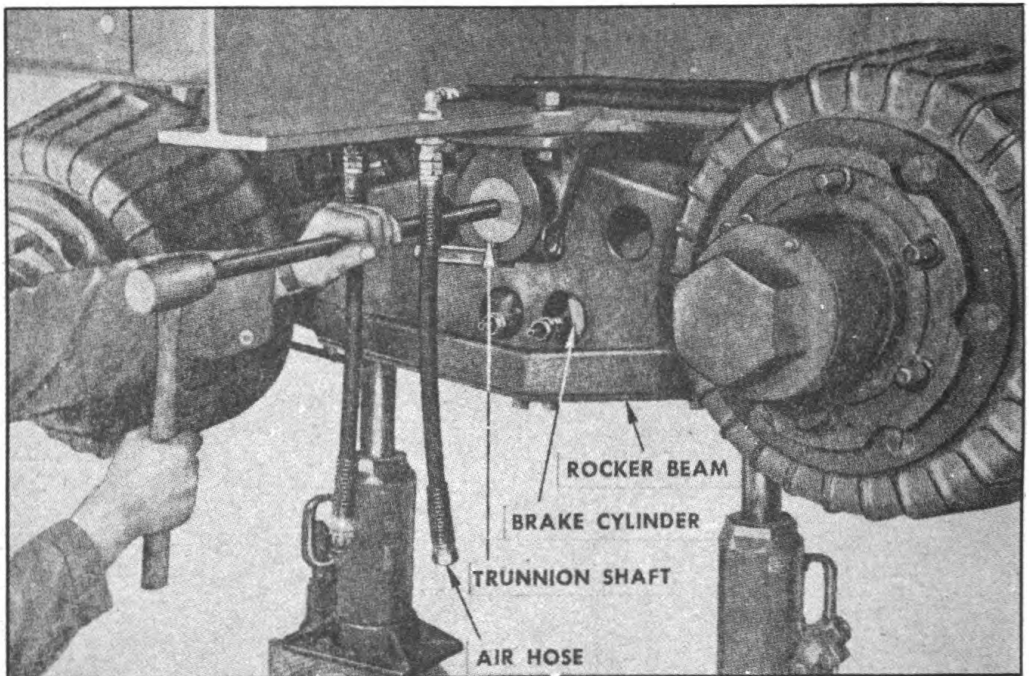

FIGURE 17. TRUNNION SHAFT REMOVAL
c. *Trunnion shaft removal* (Figure 17).—(1) Place a hydraulic jack under rear crossmember at each corner. Jack trailer up just high enough to relieve the weight of underconstruction against mounting brackets.
(2) Place two jacks under rear crossmember and jack trailer up.
(3) Place a greased plank on steel plate under the outer wheel and hub assembly.
(4) Remove the four inner wheels.
(5) Remove the two inner hub assemblies.
(6) Remove the two outer wheel and hub assemblies in one unit.
(7) Disconnect the front and rear parking brake rods at brake lever.
(8) Remove the two clevis pins from the two equalizers.
(9) Remove front and rear trunnion axle with brake assembly attached.
(10) Disconnect the two air lines which run to brake cylinders mounted on inside of rocker beam.
(11) Place a jack under rocker beam at front and rear.
(12) Remove the pinch bolt from mounting bracket (Figure 17).
(13) Remove alemites from trunnion shaft.
(14) Drive shaft out using a heavy bar and sledge hammer (Figure 17).
(15) Lower the two jacks and lift rocker beam out.
f. Replacing walking beam.—(1) NOTE: Before attempting to install rocker beam test operation of trunnion shaft by shoving it through bushings of rocker beam. Make sure the bushing is not burred as this will prevent trunnion shaft from sliding through.